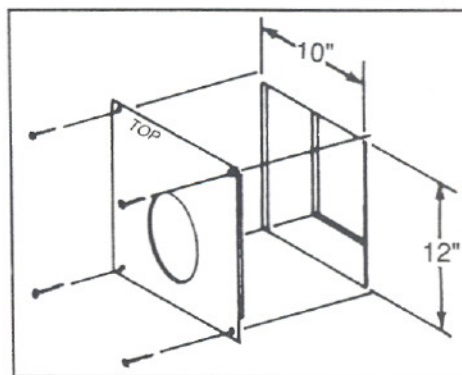

Figure 4
Position the interior wall shield into position and secure with (4) fasteners, (1) in each corner. See Figure 4.